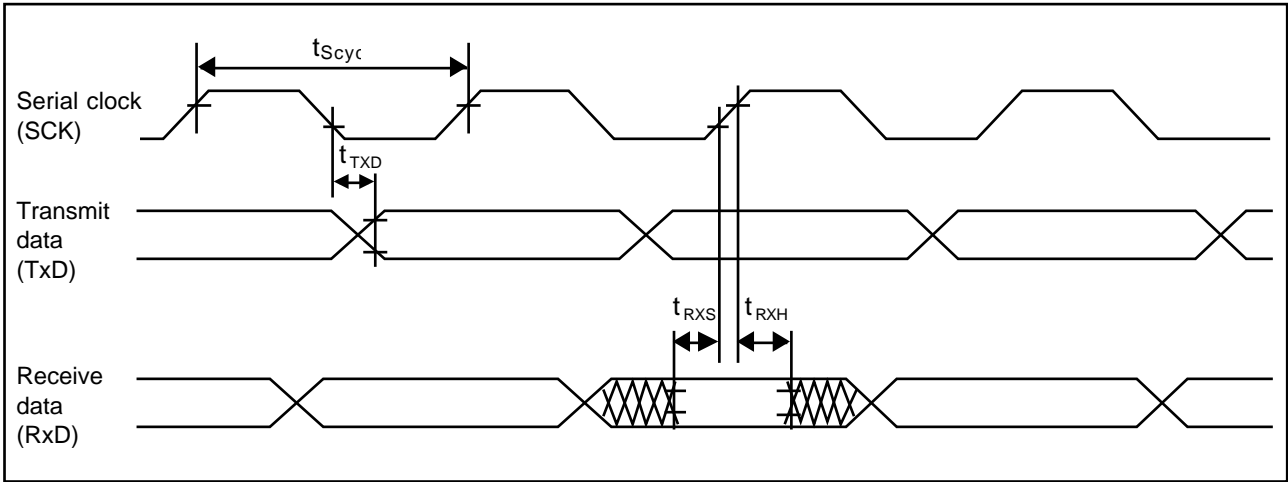

Figure 14-15. SCI Input/Output Timing (Synchronous Mode)
- 14.3.5 SCI Timing Figures 14-15 to 14-16